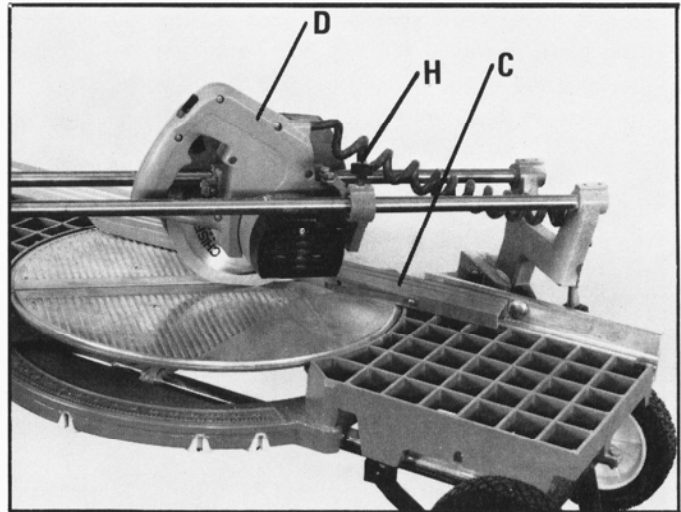

Fig. 68
3. Move cuttinghead (D) Fig. 68, out toward the front, position right hand fence (C) between saw blade and fence bracket and move cuttinghead (D) against fence (C) to wedge fence in place, as shown in Fig. 68, and lock cuttinghead by tightening lock knob (H).